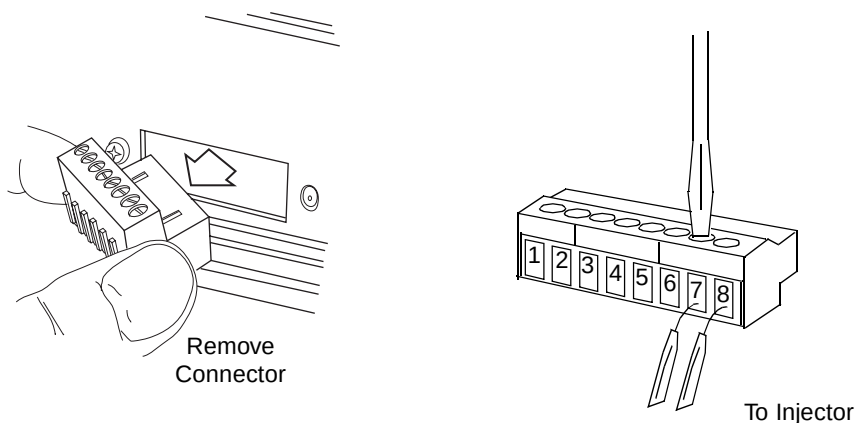

Figure 2-5 Event Connector Removal and Connections
3. Insert the two straight leads at the other end of the Event In/Out cable into the chosen assigned positions (refer to Table 2-1). Tighten the screws with a small flat-blade screwdriver (Figure 2-5).